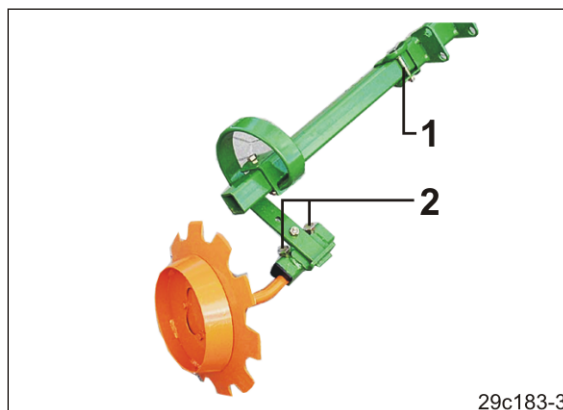

Fig. 152
4. Slacken the wedge bolt (Fig. 152/1).
6. Tighten the wedge bolt (Fig. 152/1).
7. Release both screws (Fig. 152/2).
9. Tighten the screws (Fig. 152/2).